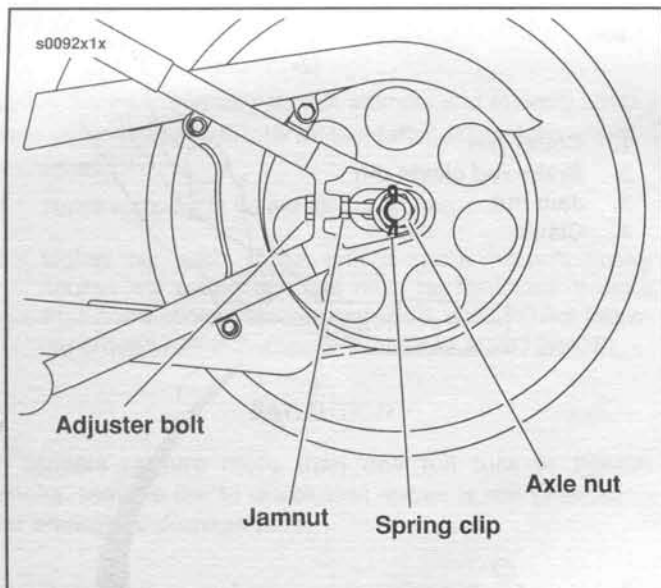

Figure 1-12. Axle Adjuster
2. If belt adjustment is necessary, see Figure 1-12. Remove spring clip and loosen axle nut and jamnut.